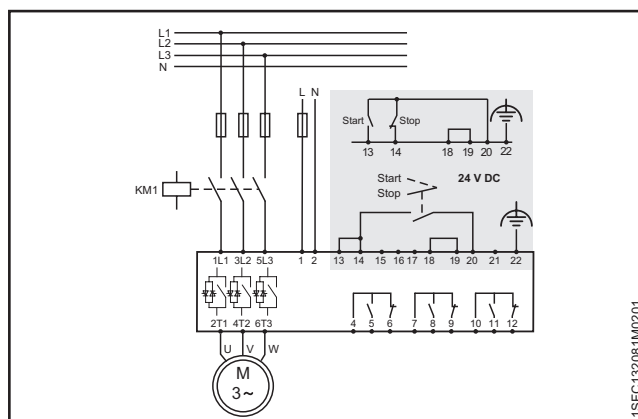

Figure 2.7
- Look at the diagram, see **Figure 2.7**, and connect the start/stop circuits: terminal 13, 14, 18, 19 and 20/21, with the internal 24V DC terminal. When you use internal 24 V DC (terminals 20 or 21), the terminals 18 and 19 must be connected to each other. For external control circuit voltage, see chapter **5.1.2.3 Start and Stop - terminals 13, 14, 18, 19, 20, 21**.